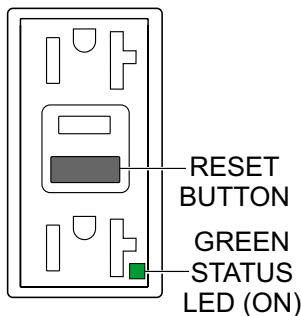

Figure 97. GFCI Receptacle (ON/Restore)
5. Press the **RESET** button (Figure 97) to restore power to the GFCI receptacle and verify that the status LED is **ON (GREEN)**.